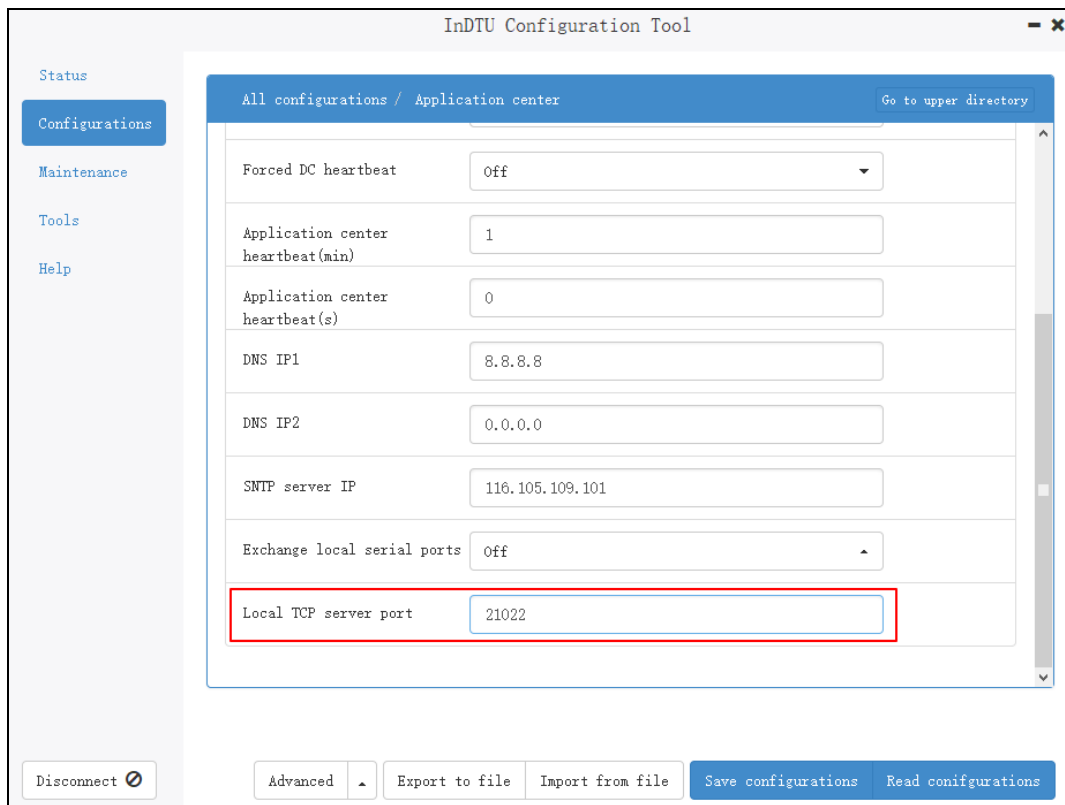

Figure 5-13 TCP server communication port
Step 2: Click “Configurations>>Application center”, set special port number for “Local TCP server port”, as shown in Figure 5-13.